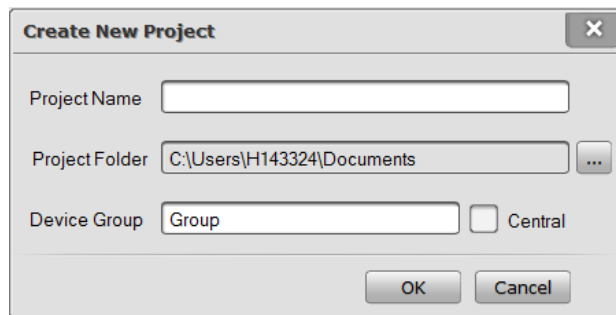

Figure 6 New Project Window
1. Select the menu command *Project* → *New* in the X-618 Config software window. The New Project window is displayed, as shown in Figure 6.
2. Refer to the example shown in Figure 6 to set the Project name, Location, Device Group Name and if set as the Central. The default directory for the project file is “My Documents”.